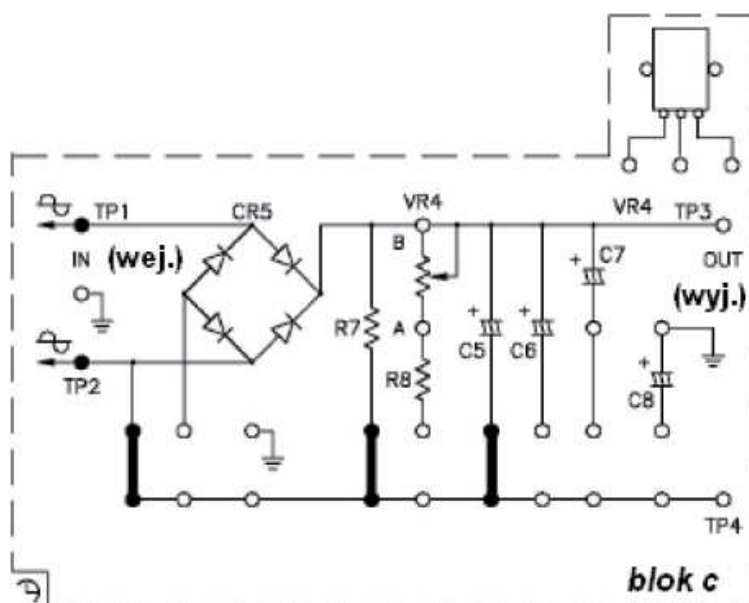

Fig. 3: Electrical assembly schematic (KL-25002 part C) - Half-wave rectifier with capacitor [1]
1. Make the connections according to the assembly schematic (Fig. 3).